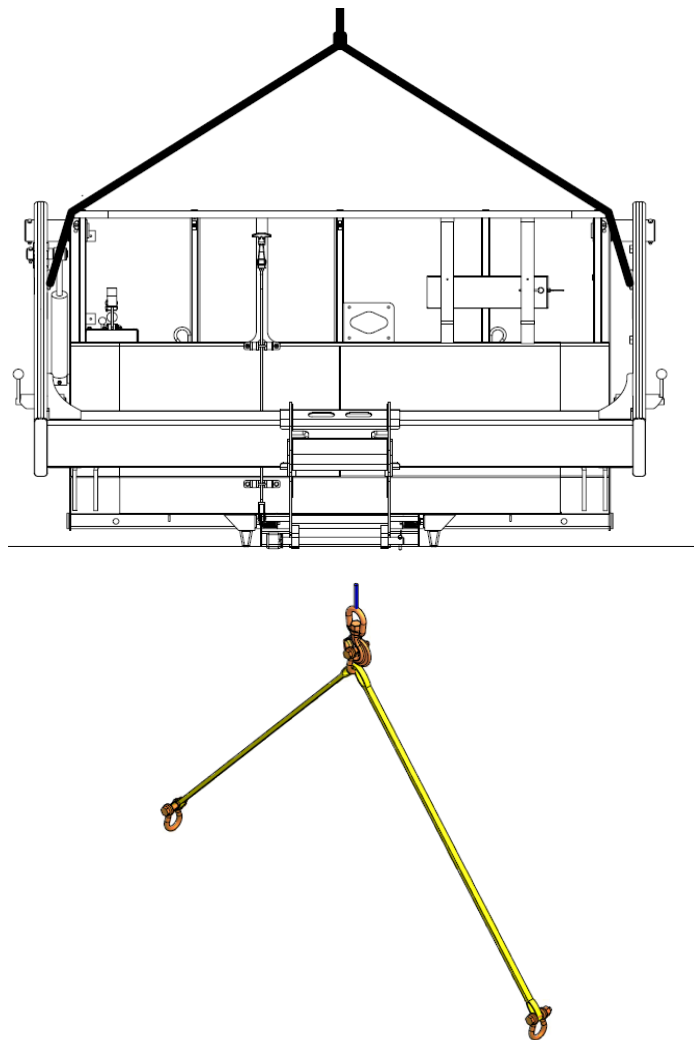

Figure 1: Sling attachment to platform assembly
- A. Rig the platform from the yoke lift lugs as shown in Figure 1